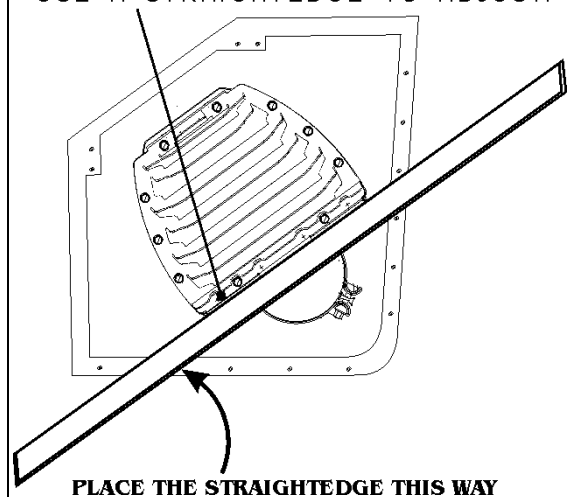

FIGURE 8: DIFFUSER POSITION ADJUSTMENT 04015_2
3. Using a straightedge, adjust the diffuser assembly level. The top surface of the warning plate fixed on the diffuser louvered cover must be flush with the roof surface (fig.8). It may exceed about 1/4in (6mm). Place the straightedge as shown on figure 8.